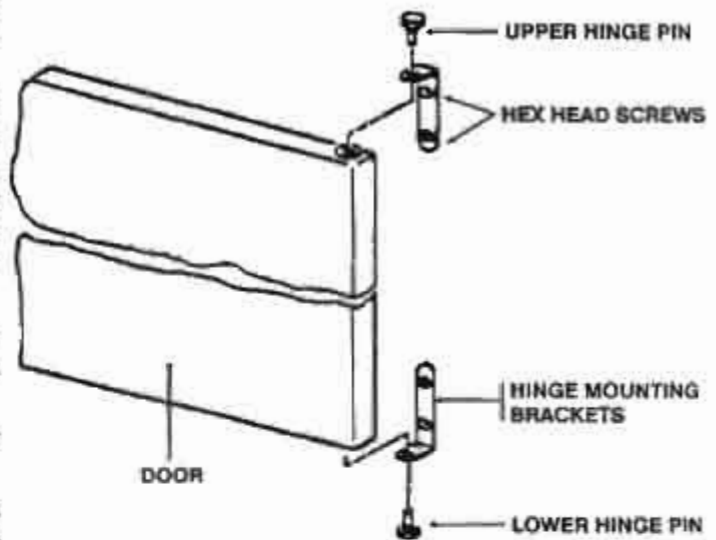
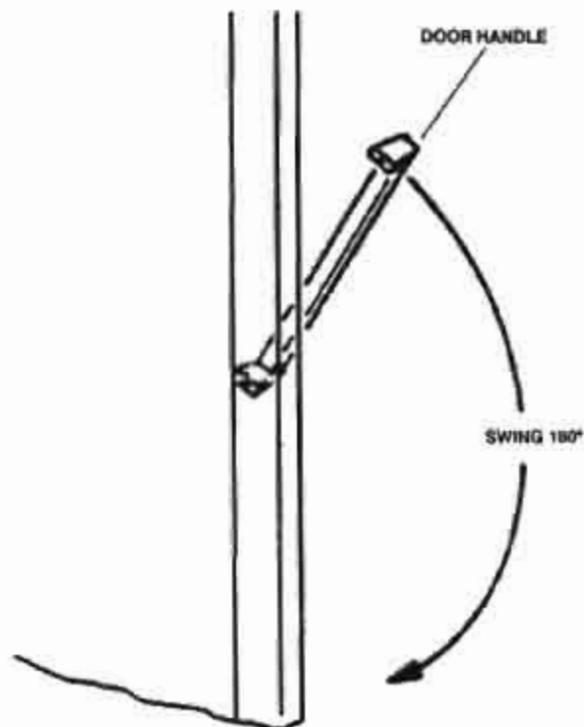

Figure 3-12. Door hinges.
Figure 3-15. Door handle.
c. *Door swing conversion (fig 3-12 through fig 3-15).* The warming cabinet door may be converted from right hand to left hand or left hand to right hand swing. Conversion procedures are as follows:
(1) Remove the upper and lower hinge pins while holding the door closed against the cabinet. Remove the door and set it aside.
(2) Remove the two hex head screws from both the upper and lower hinge mounting brackets.
(3) Remove the two sets of screws, trim washers, and stiffeners from the opposite side of the warming cabinet and reinstall them in the holes where the upper and lower hinge mounting brackets were just removed.
(4) In turn, reinstall the hinge mounting brackets on the opposite side using the two screws previously removed from each bracket.
(5) Remove the three screws and the door striker plate assembly.
(6) Remove the three washer-head screws from the identical mounting position of the opposite side panel and reinstall them where the door striker panel assembly was removed in the preceding step.